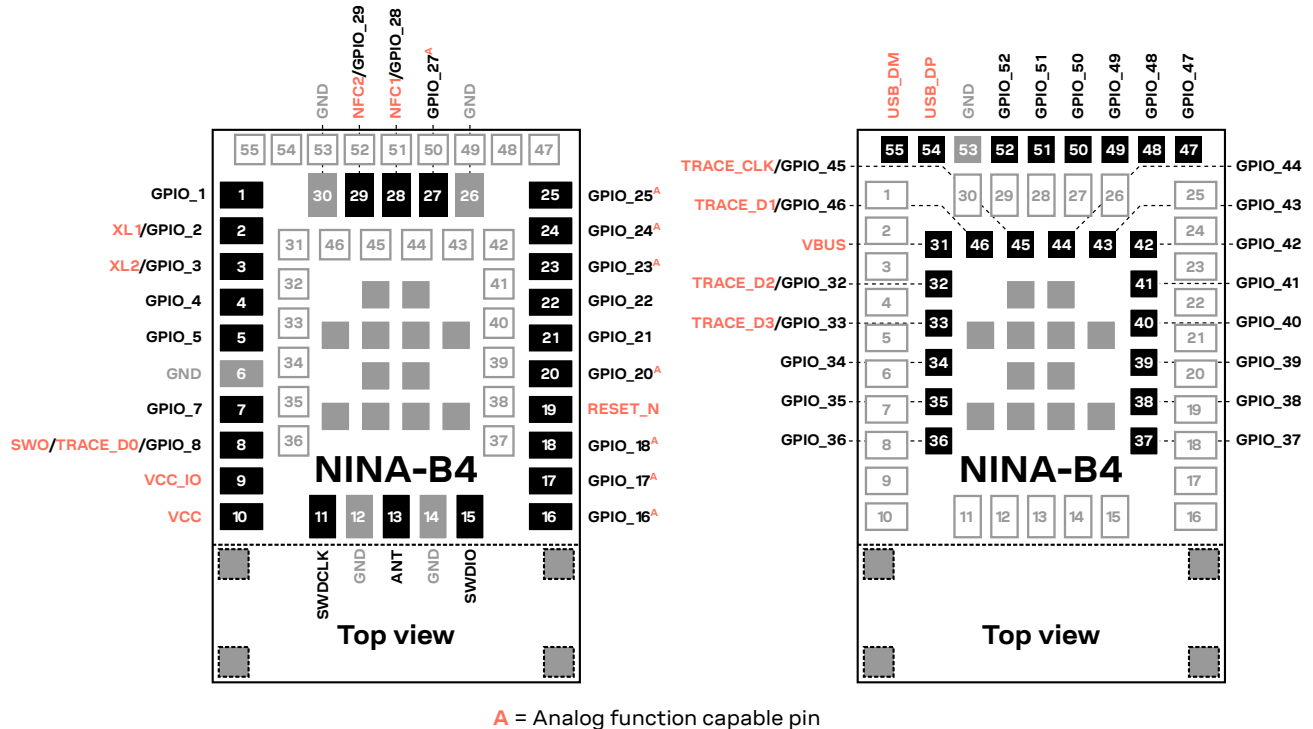

Figure 3: NINA-B40 series pin assignment (top view)
The pin-out described in Figure 3 is an example assignment that shows the module in an unconfigured state.
The grey pins in the center of the modules are GND pins. The outline below the dotted line as shown in Figure 3, the antenna area of the NINA-B400 and NINA-B406 begins. The four grey pins with dotted outlines in the antenna area are GND pins and are only present on NINA-B406.
- Most of the digital or analog functions described in this data sheet may be freely assigned to any GPIO pin. Analog functions are limited to analog capable pins. Signals that are highlighted in red in Figure 3 are not freely assignable but locked to a specific pin.